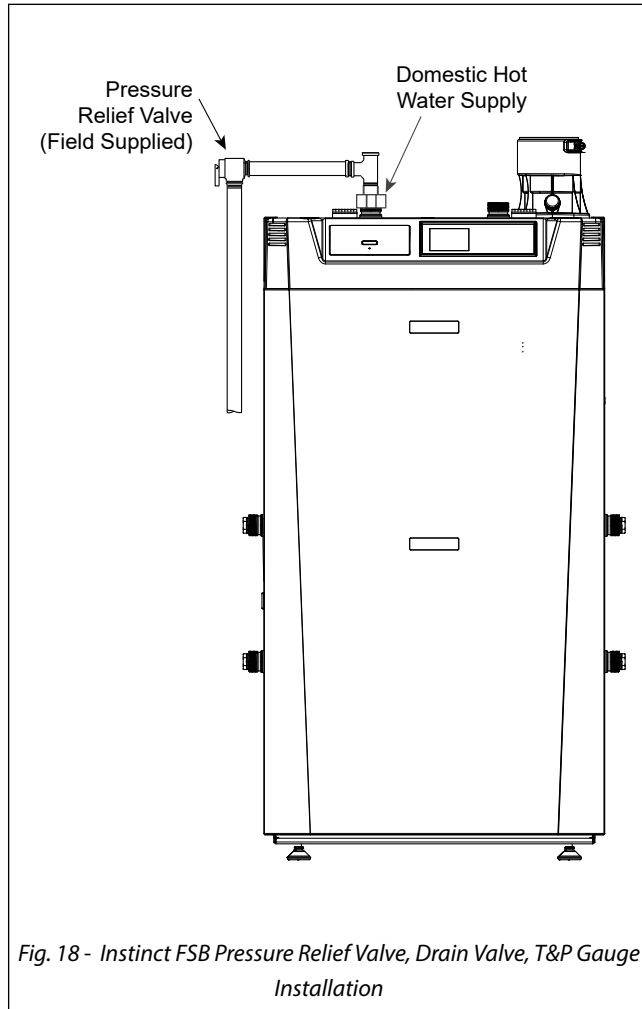

Fig. 18 - Instinct FSB Pressure Relief Valve, Drain Valve, T&P Gauge Installation
Install pressure relief valve onto the domestic piping as shown in Fig 18 below.
1. The Instinct FSB is not supplied with a 150 psi [10bar] pressure relief valve and must be piped using a pressure relief valve connected as shown in *Fig. 18*